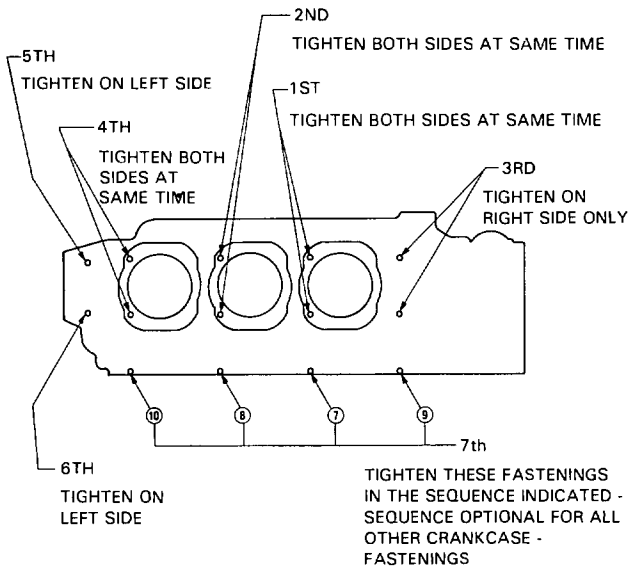

Figure 5. Left Side of Crankcase
e. Integral Accessory Drive Engines (TIO-541), Wide Cylinder Flange (See Figure 5).